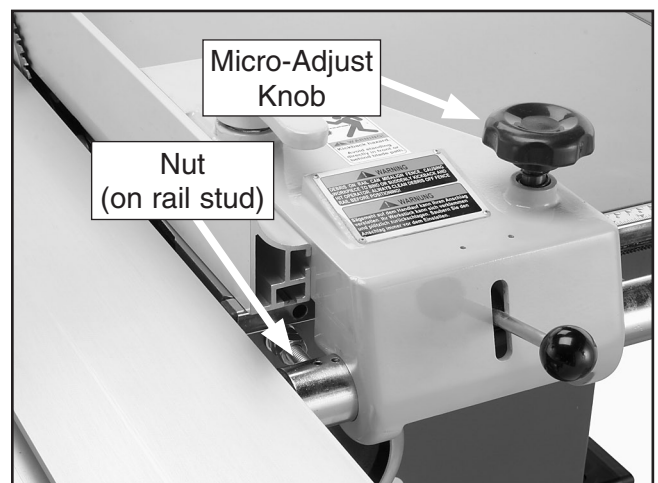

Figure 28. Aligning the round rail.
6. Adjust the nut shown in **Figure 28** until the pinion gear teeth under the rip fence body mesh with the teeth on the square tube when the micro-adjust knob is pushed down. Tighten the hex nuts on that stud to secure the rail on that end.